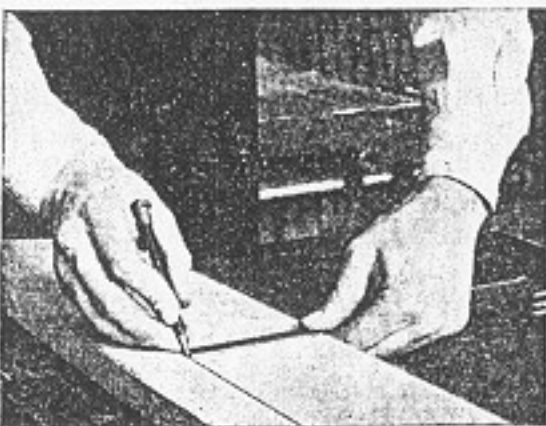

Fig. 47. Gauging with pencil and rule.
2. When a greater distance is to be gauged with a pencil, a rule is held in the left hand and a pencil in the right hand at the end of the rule (Fig. 47). The second finger of the hand holding the rule is held against the edge of the board. This finger acts as the head of a marking gauge. The gauging is done toward the worker moving both hands in unison. This method is used only on boards having straight and smooth edges.